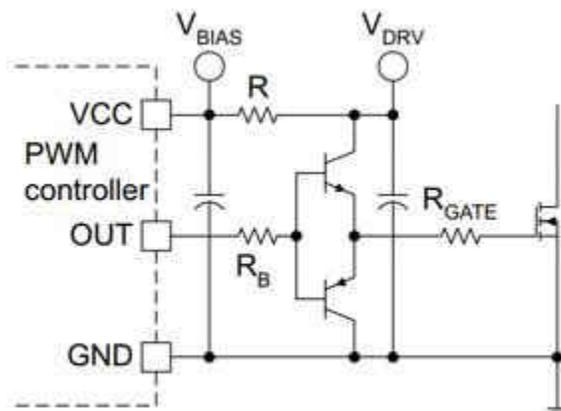

Figure 1. Bipolar Junction Transistor (BJT) Totem-Pole Gate-drive Circuit
The application report “Fundamentals of MOSFET and IGBT Gate Driver Circuits” details a number of methods to effectively drive MOSFET gates, including the popular bipolar totem-pole pictured in Figure 1.
You can use the configuration in Figure 1 to effectively drive 3A to 6A to the MOSFET gate, but there are a couple of drawbacks that a gate-driver integrated circuit (IC) can rectify related to board space, system design complexity, noise immunity and thermal protection.